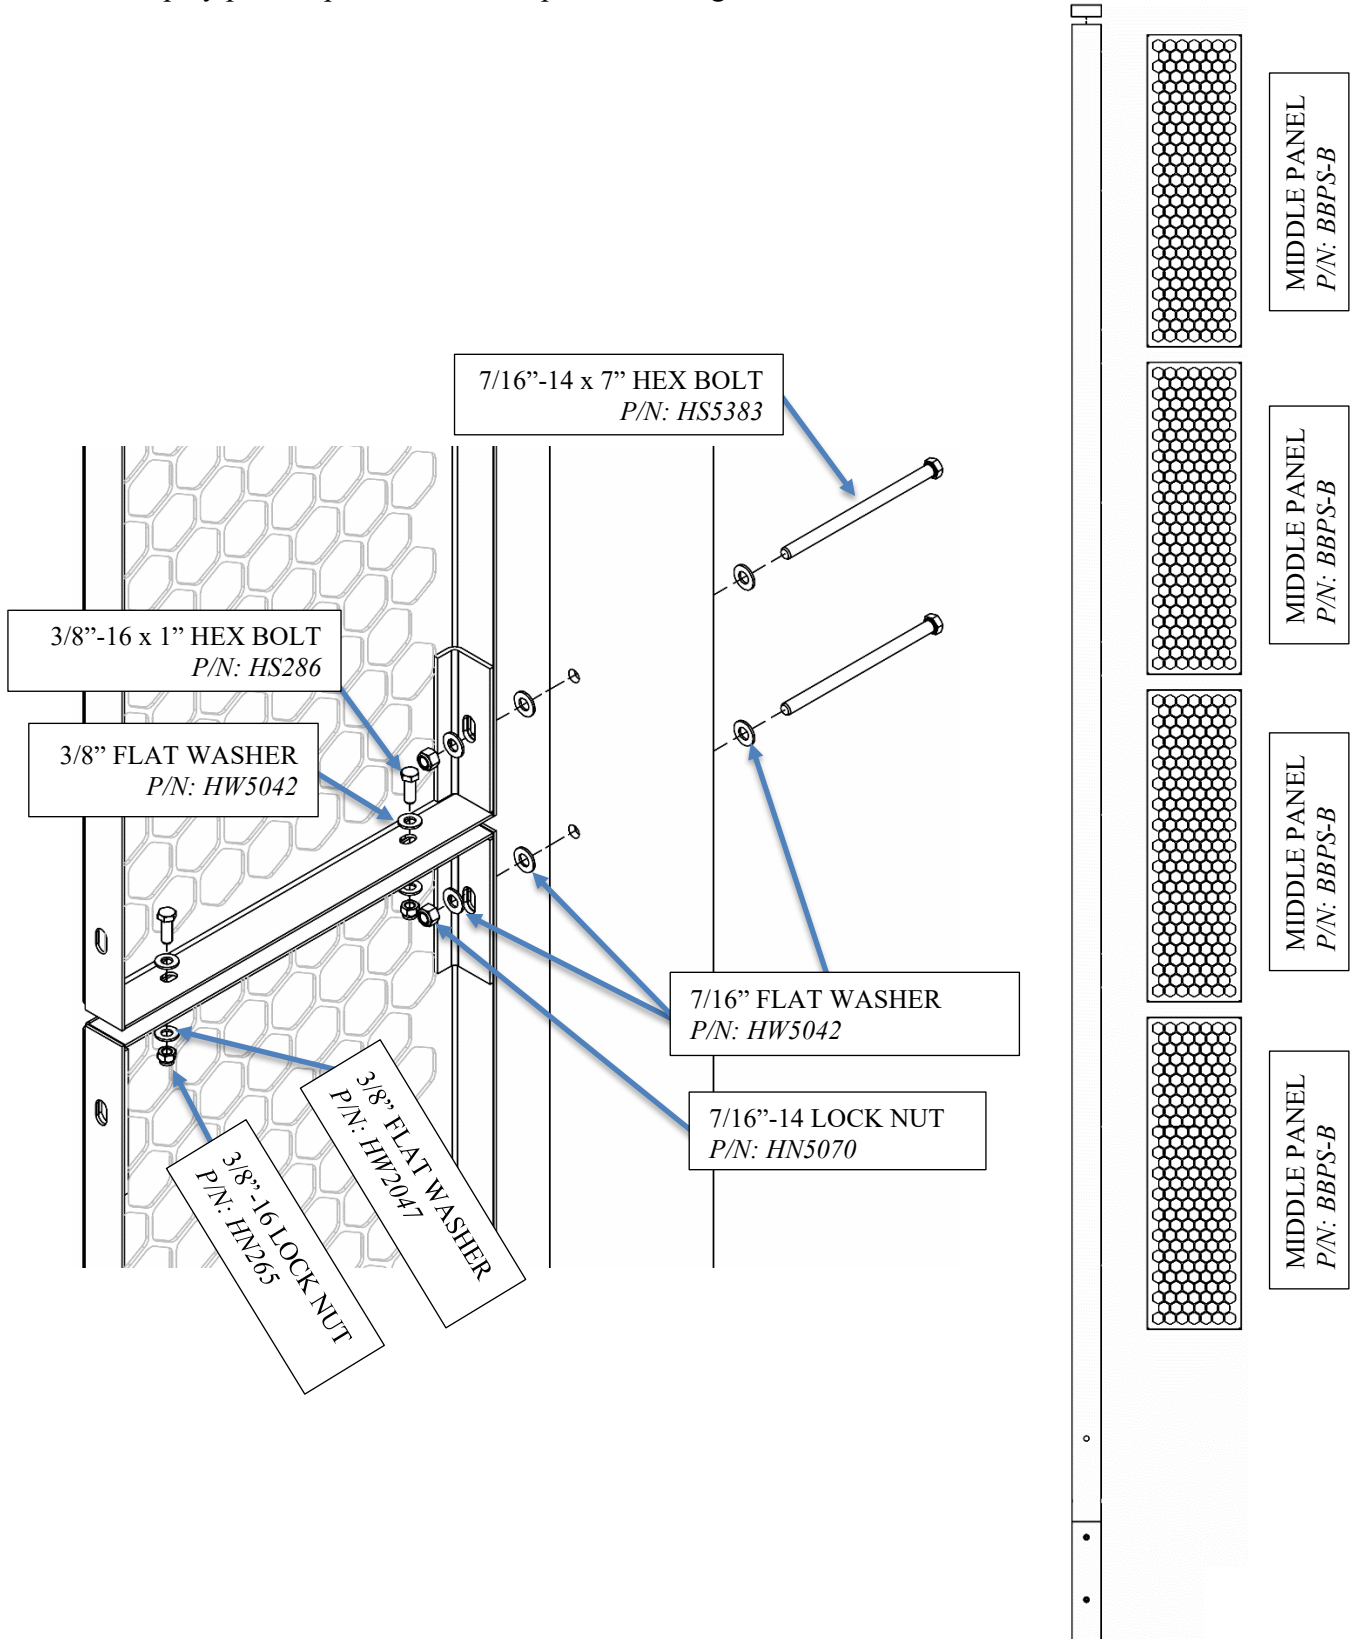

FIGURE: 7
4. Attach the side panels per figure 7 orient the panel so the front side is facing the field.